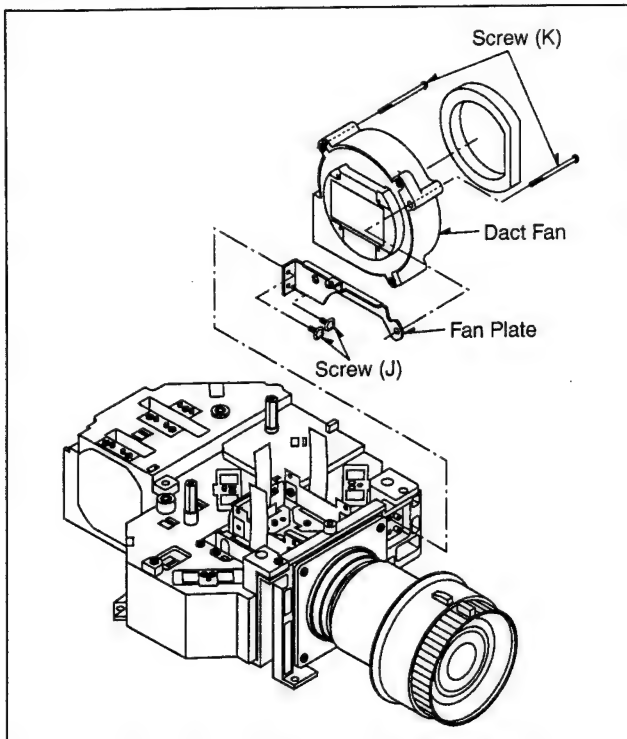

Fig. O11
1. Remove 2 screws (J) to remove the Duct Fan along with the Fan Plate as shown in Fig. O11.
2. Remove 2 screws (K) to remove the Duct Fan from the Fan Plate.